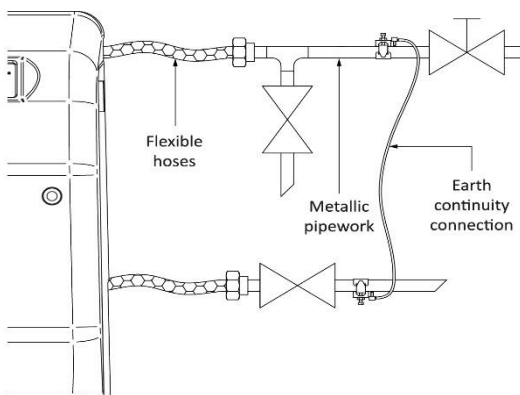

Fig. 14
- 7.5 Adjacent pipes:** Adjacent suction and delivery pipes should be fitted with earthing clamps in accordance with current regulations (Fig. 14).